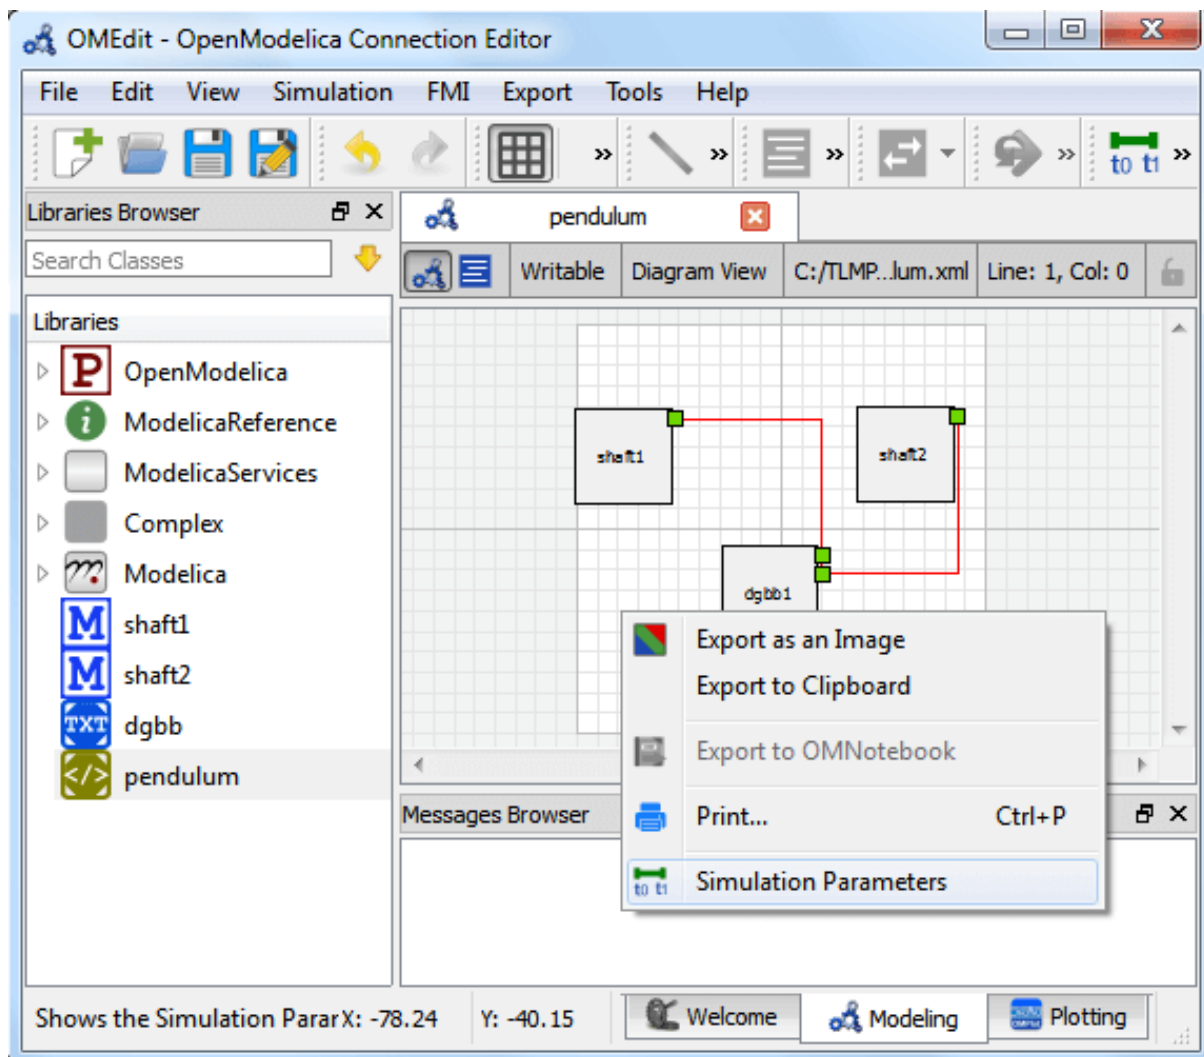

Figure 9.16: Changing Co-Simulation Parameters from the Popup Menu.
- Right click an empty location in the Diagram View of the composite model and choose **Simulation Parameters** from the popup menu (see Figure 9.16)